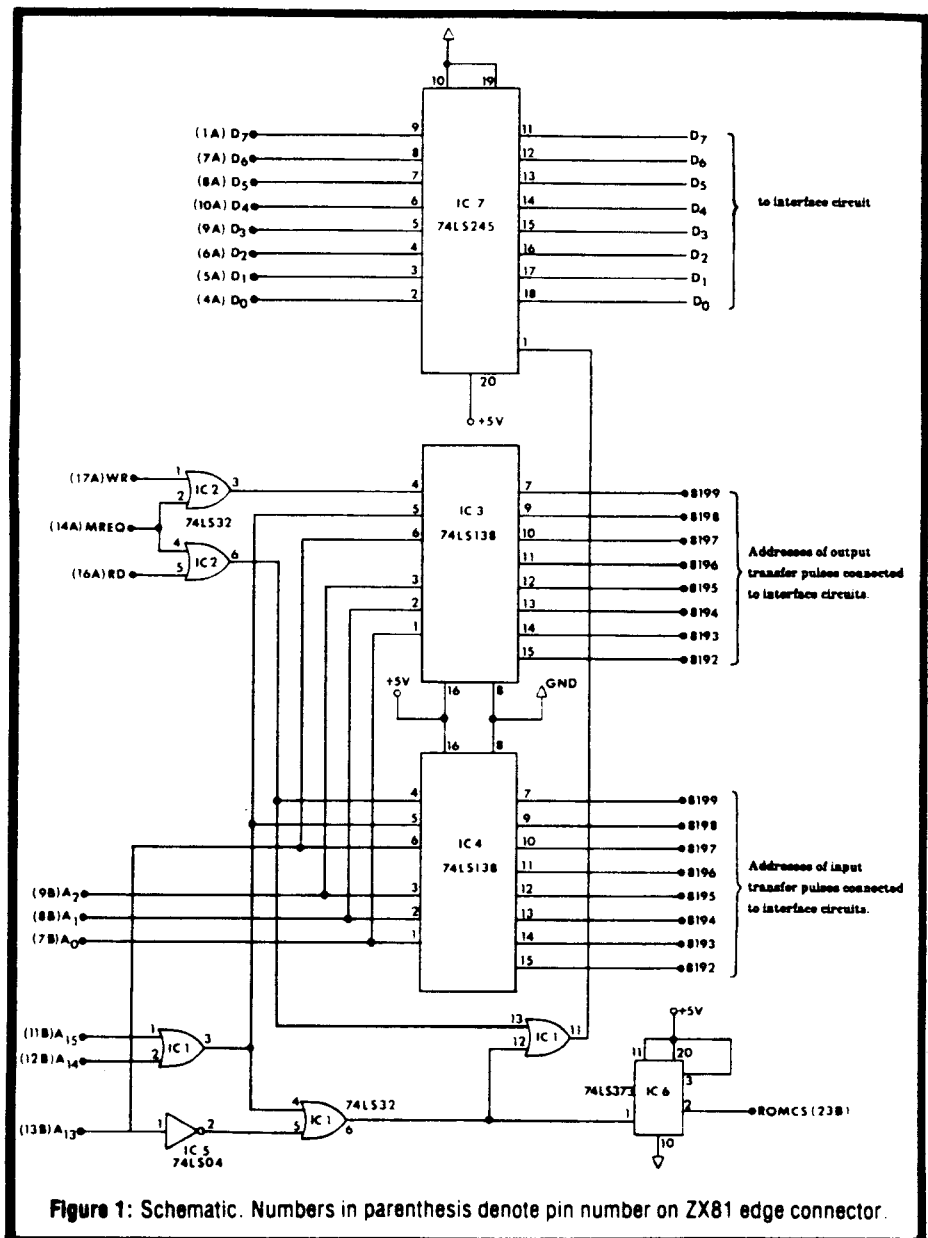

Figure 1: Schematic. Numbers in parenthesis denote pin number on ZX81 edge connector.
Figure 1. Address lines A13, A14, A15, and 3 gates (two "OR" gates and 1 "INVERTER") from ICs 1 and 5 are required to decode the memory space which is used for MMIO on the ZX81. The 3 gates from ICs 1 and 5 configure a decoder which outputs a logic 0 on pin 6 of IC 1 any time memory locations 8192 through 16383 are addressed. Pin 6 of IC1 is connected to the output enable (pin 1) of tristate buffer IC6.
Information flows into (and out of) the ZX81 via an octal bus transceiver, IC7 in Figure 1. If address space 8192(D) through 16383(D) is accessed, and a memory read operation is being performed, pin 1 of IC7 will be at a logic 0, allowing data to be transferred into the ZX81. If address space 8192(D) through 16383(D) is accessed, and a memory write operation is being performed, pin 1 of IC7 will be at a logic 1, allowing data to be transferred out of the ZX81. The purpose of this octal bus